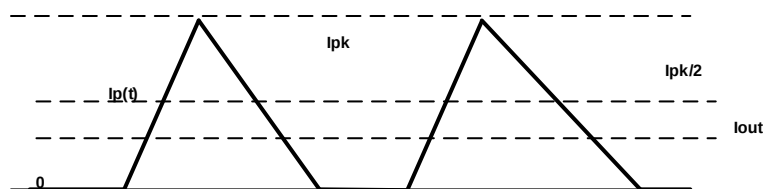

Figure 5 Inductor current waveform
The internal MOSFET turns off when $I_{P(t)}$ rises to I_{PK} (see Figure 5). The output current is calculated with Equation (5):